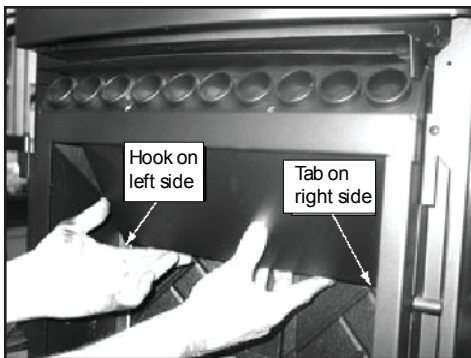

Figure 18.1
2. The top baffle has a hook on the bottom left side that rests on the top lip of the cast brick. There is a tab on the bottom right side that hooks into the side bracket. Remove the top baffle by first pulling the baffle forward until back edge drops down. Then slide baffle back until the front edge clears the shelf that it had been resting on. **Figure 18.1.**